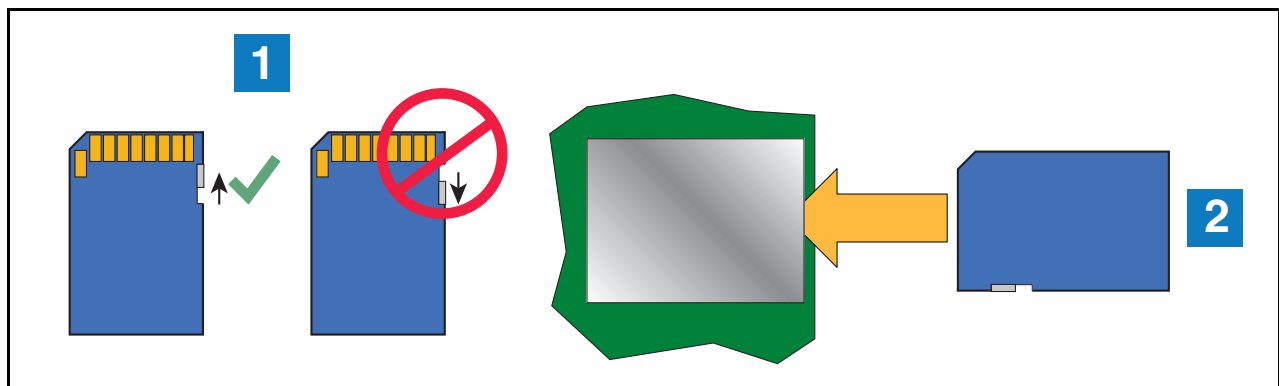

Figure 20. Installing SD Card
5. Press the outer edge of the SD card towards the interior of its enclosure and it should spring out so it can be removed. Remove the SD card from the old CPU board and check that the read/write-protect switch on the side of the card is in the position shown in (item 1 Figure 20). Insert the SD card into its enclosure on the new CPU board with the contact side facing the CPU board (item 2) and gently push the card into its enclosure until it clicks into the enclosure's latch.